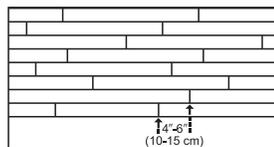

Figure 4
- Be attentive to staggering the ends of boards at least 4"-6" (10-15 cm), when possible, in adjacent rows (Figure 4). This staggering pattern will help ensure a more favorable overall appearance of the floor.
- Check for a tight fit between all edges and ends of each plank. End-joints of adjacent rows should be staggered 4'-6" (10-15 cm) when possible, to ensure a more favorable overall appearance (Figure 4).